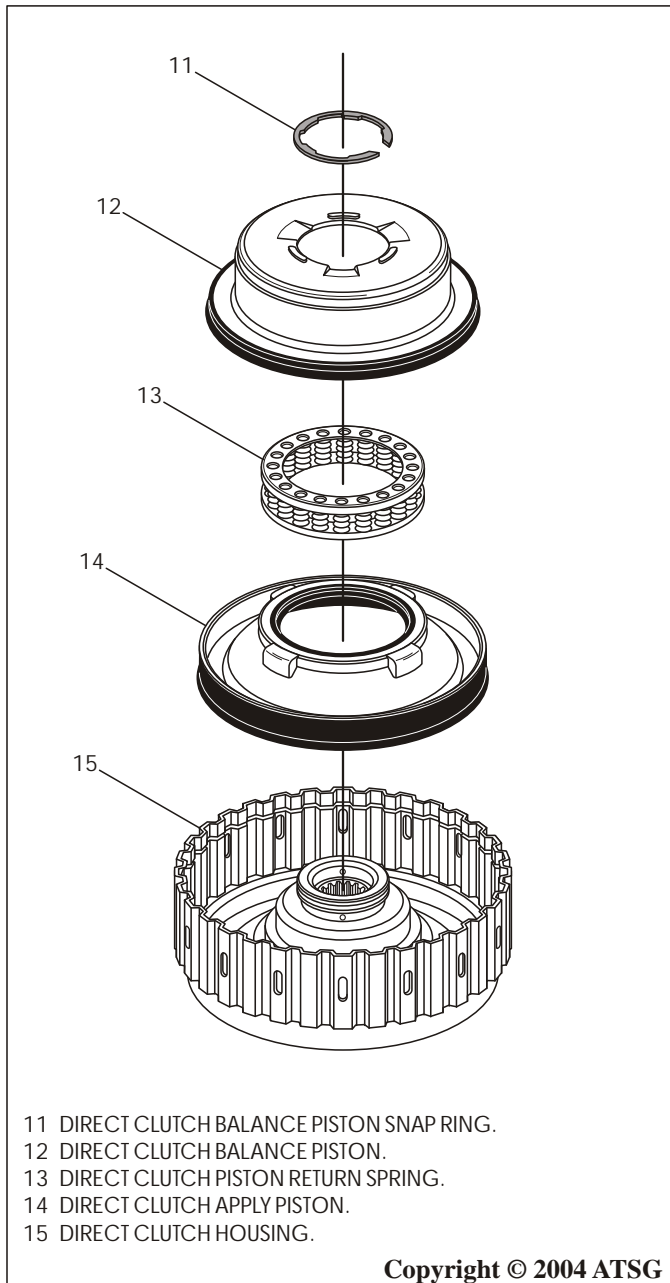

Figure 77
5. Lubricate the direct clutch piston seal surfaces with small amount of Trans-Jel® and install piston, as shown in Figure 77.
6. Install the direct clutch piston return spring assembly, as shown in Figure 77.
7. Lubricate the direct clutch balance piston with small amount of Trans-Jel® and install piston, as shown in Figure 77.